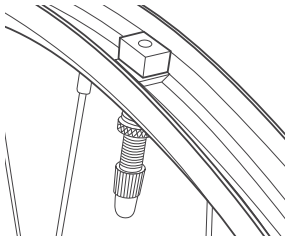

**Figure 1.** The U shape of the rim strip should face towards the center of the rim.
2. Align the rim valve hole and the valve hole of the rim strip. The U shape of the rim strip should face toward the center of the rim and offset rim strips should match the offset in the rim (Figure 1).